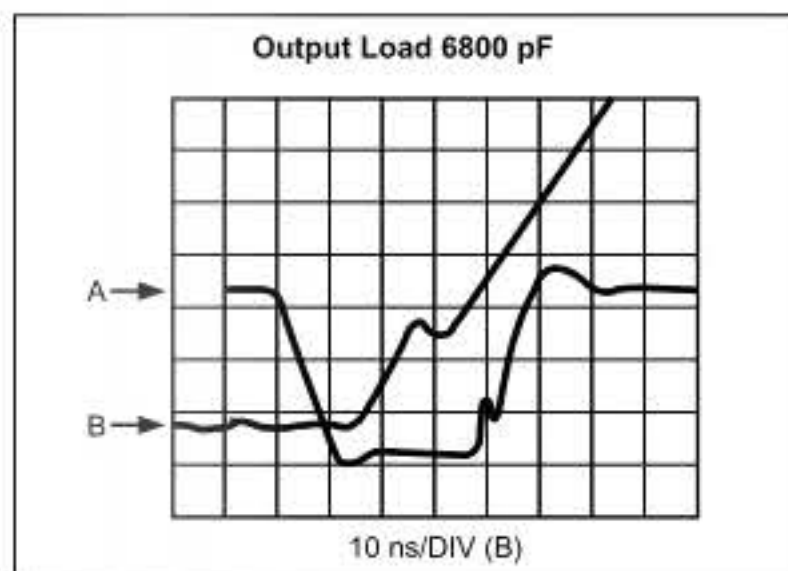

Figure 1
2. There occurs a small "notch" in the rising waveform of about 5 ns in duration. It only occurs with loads above 4000 pF and is not normally of any concern. In Figure 1, wave form A shows the output of the TC4420/4429 with a 6800 pF load. The "notch" is noticeable in the rising waveform; and waveform B is a magnified view of that rising edge. Note that if the "notch" were not there, the rise time would not substantially change.